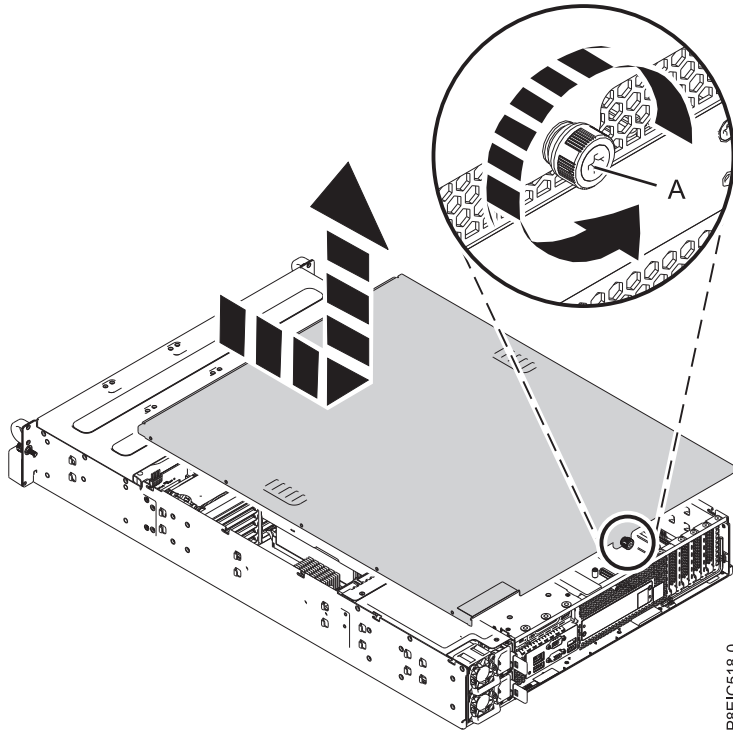

Figure 47. Removing the service cover
1. At the rear of the system, loosen the cover screw (A) that fastens the cover to the chassis. See Figure 47 on page 68.